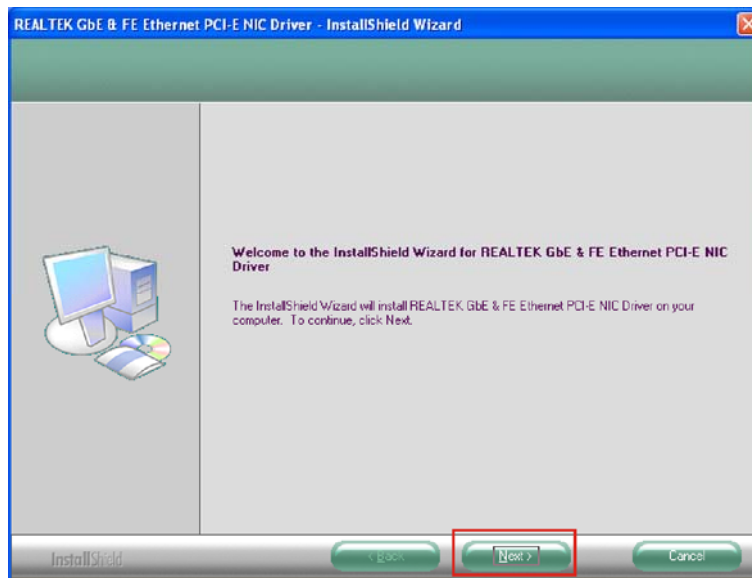

Figure 6-17: LAN Driver Welcome Screen
Step 2: The **Welcome** screen in **Figure 6-17** appears.